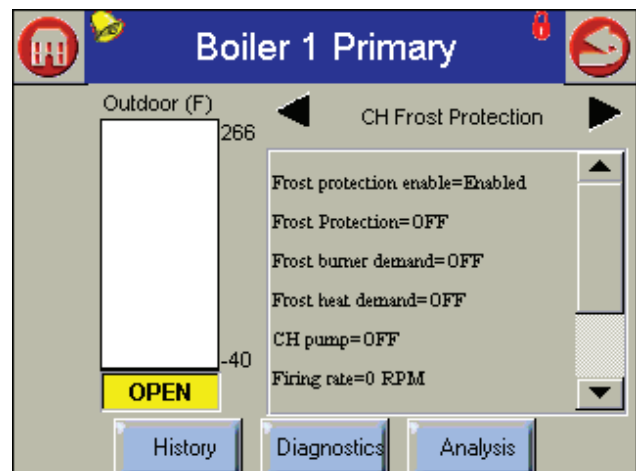

Fig. 127 – Typical Details Screen
3. If you press the Details button, the control software will present a screen similar to this (Fig. 127).